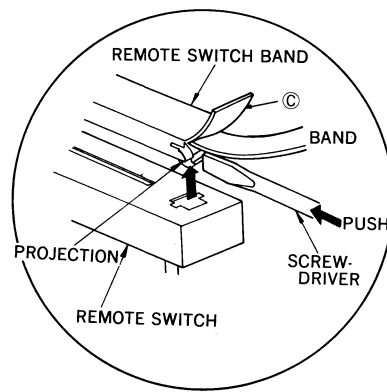

Fig. 2
1. Use a small screwdriver to push the projection of the remote-switch bands in the direction shown by the arrow in figure 2, and remove them from the remote switch.
Note: When removing the remote-switch bands, be careful not to pull the bands nor to hold them as shown in (C) of figure 2, because to do so may result in damage. Also be careful not to bend or twist the bands excessively.